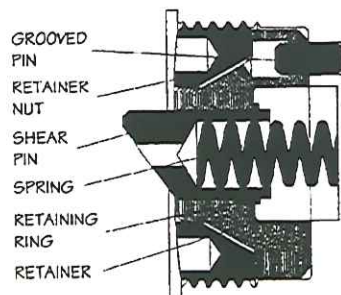

Figure 11. Detail of a shear pin assembly layout
2. Lightly grease and install a new shear pin assembly according to the layout. Install the shear pin with the tapered side down and the flat side up. Refer to **Figure 11**.